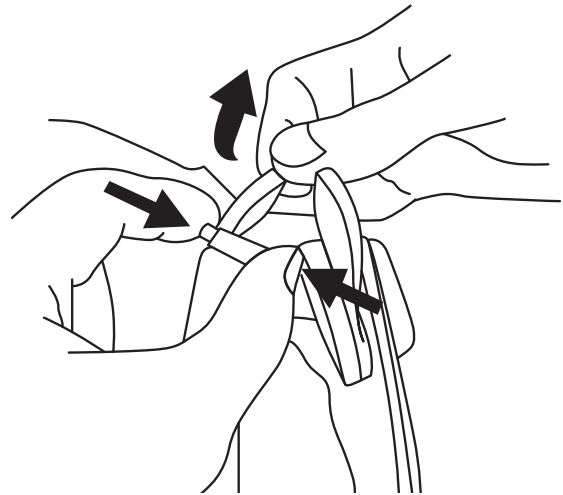

Fig. 7b
- b. If the faceseal feels loose, or has any gaps, use the drawstrings and barrel clips at the temple region (Fig. 7b) to tighten the faceseal to remove any gaps in the faceseal; removing the welding helmet to accomplish this may be easier. The soft cotton-like material on the edge of the faceseal should come into contact with the skin around the entire faceseal perimeter and the faceseal should be snug (fit 2 fingers between the face and seal) without being uncomfortable.